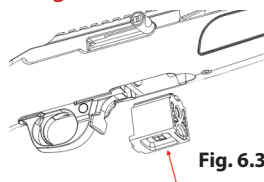

Fig. 6.3
- Firmly insert magazine into the firearm until it latches. (Fig 6.3). (NOTE: Magazine will only latch if oriented correctly.)